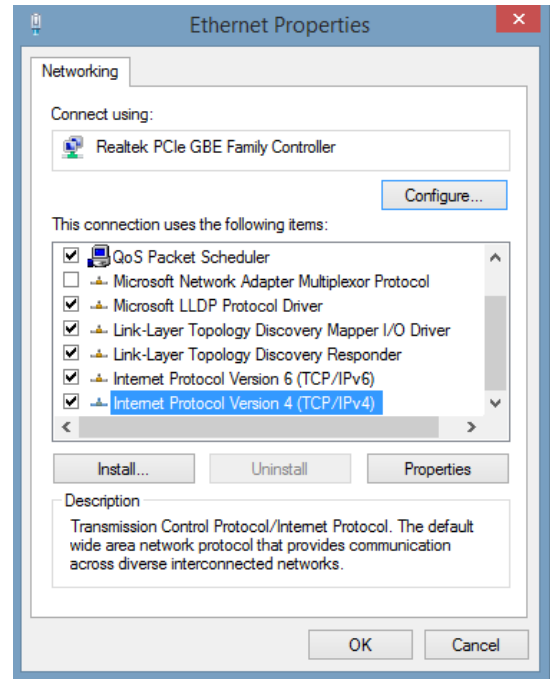

Fig. 2-13, Local Area Connection Properties Screen, Windows 10
6. You will see a dialog box much like Fig. 2-13; click **Internet Protocol (TCP/IPv4)** and then click the **Properties** button.